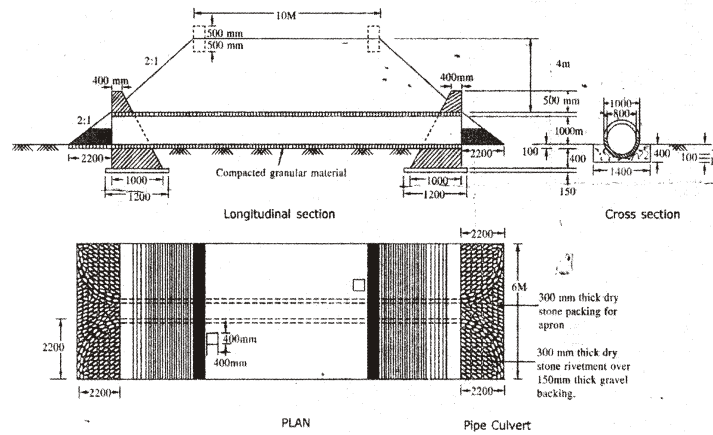

Fig. 6
16. Details of pipe culvert are given in Fig. 6. Calculate the quantities of the following items of work.